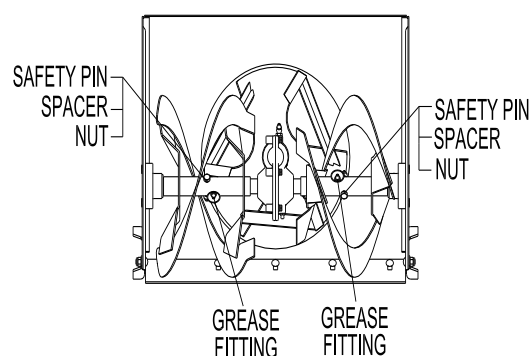

FIG 30
6.14.1 Clean out sheared safety pin. (FIG 30)